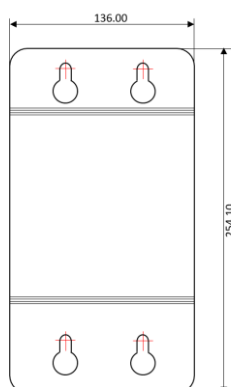

Figure 1
2. Fix the mounting template on the wall and drill 4 holes with a diameter of 8mm in the wall according to the mounting template (Figure 1). Use expansion bolts to support the control unit.